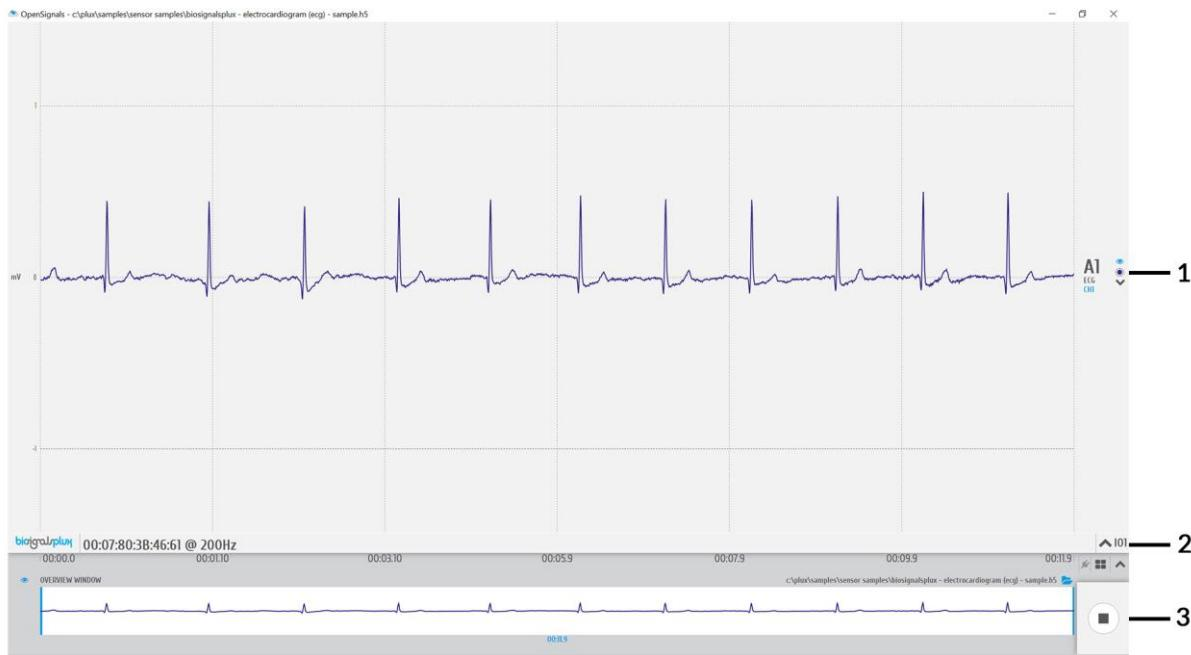

Figure 72: Sections of the visualization mode.
- Signal visualization (1 in Figure 72; see section 3.2.2 Signal Visualization)
- Information bar (2 in Figure 72; see section 3.2.3 Information Bar).
- Control bar (3 in Figure 72; see section 3.2.4 Control Bar)